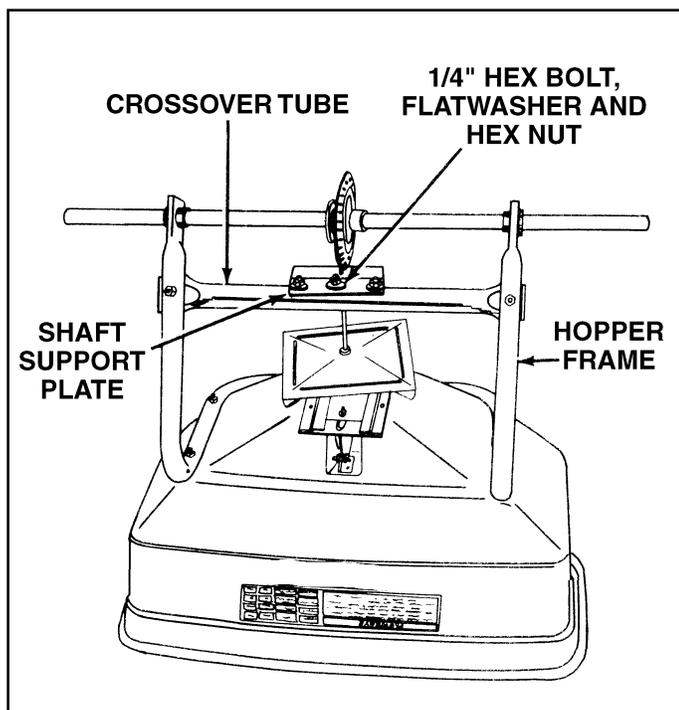

FIGURE 1
2. Turn the spreader upside down as shown in figure 1, so that it rests on the hopper.
3. Remove the 1/4" hex bolt, flat washer and hex lock nut from the center of the crossover tube and shaft support plate. See figure 1.
5. Assemble short end of hitch tube to the crossover tube (on opposite side from shaft support plate). Fasten to the center hole in the crossover tube using the 1/4" x 1-1/2" hex bolt, the 1/4" flat washer and the 1/4" hex lock nut removed in step 3. See figures 1 and 2. **Do not tighten at this time.**